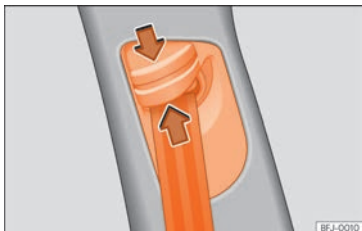

Fig. 29 Near the front seats: seat belt height regulator.
- Keep the guide device pressed down in the direction of the arrow >>> **Fig. 29**.